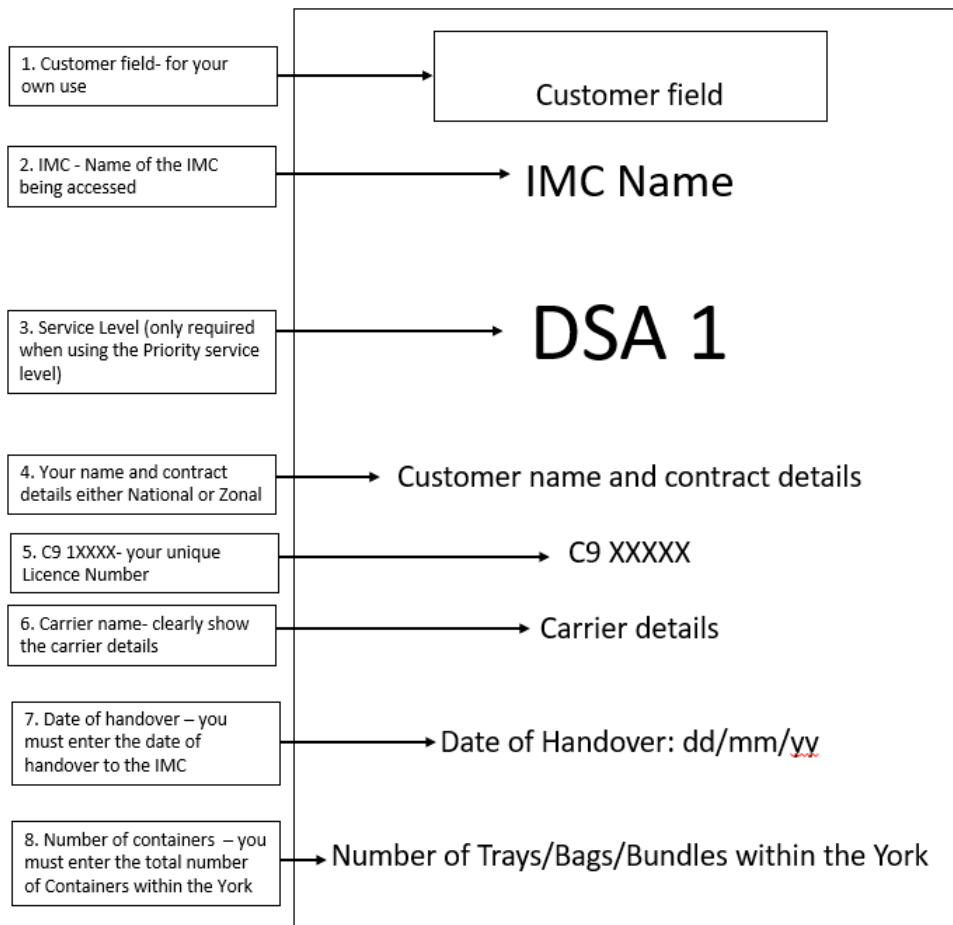

Figure 25: York card
- Figure 25 provides an example of a York card: